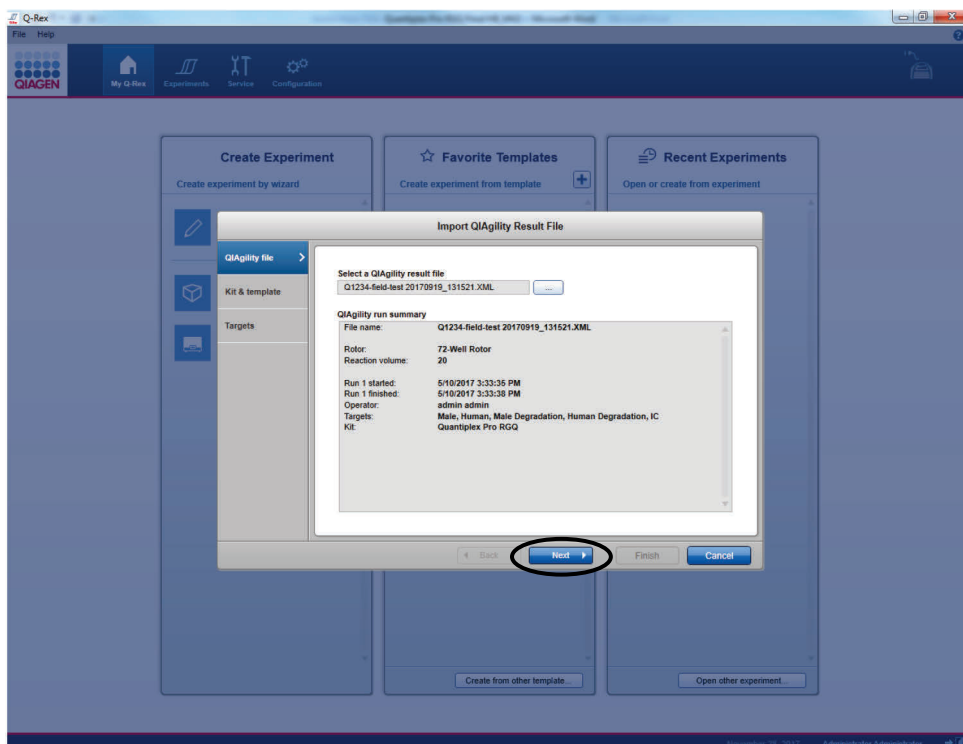
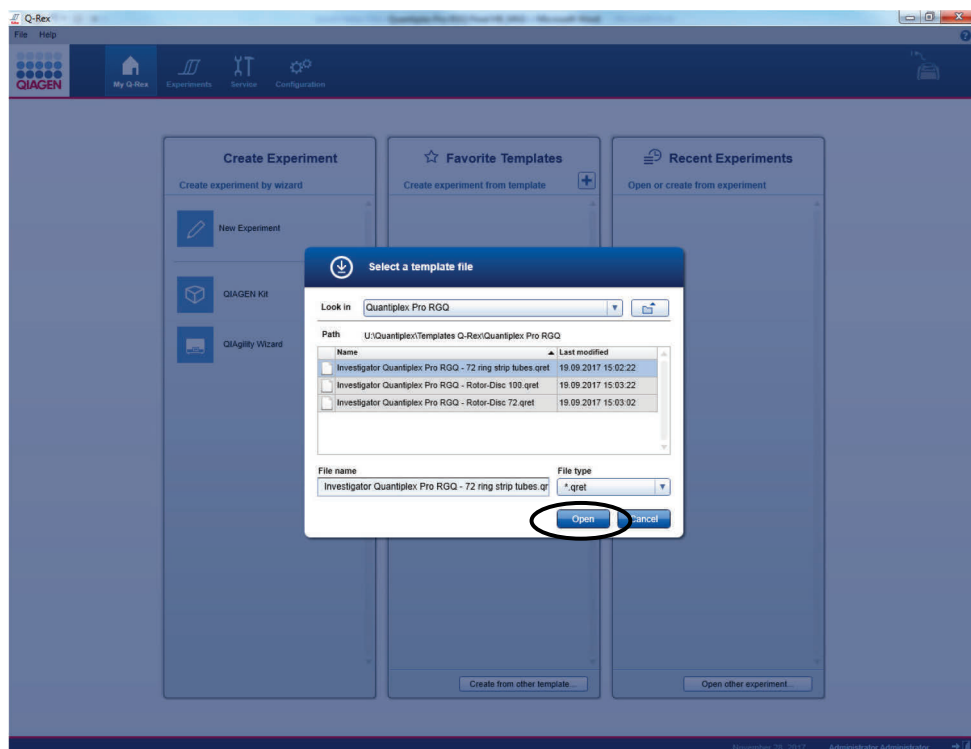

Figure 18. Selecting the Quant Batch file.
Figure 19. Selecting the Quantiplex Pro RGQ Template Q-Rex.
27. Click on next (Figure 18) and browse to locate the saved Quantiplex Pro RGQ Template files for use with the Data Handling Tool and select the correct Quantiplex Pro RGQ Template file for 0.1 ml strip tubes, Rotor-Disc 72 or Rotor-Disc 100 (Figure 19).
28. Click on open (Figure 19).